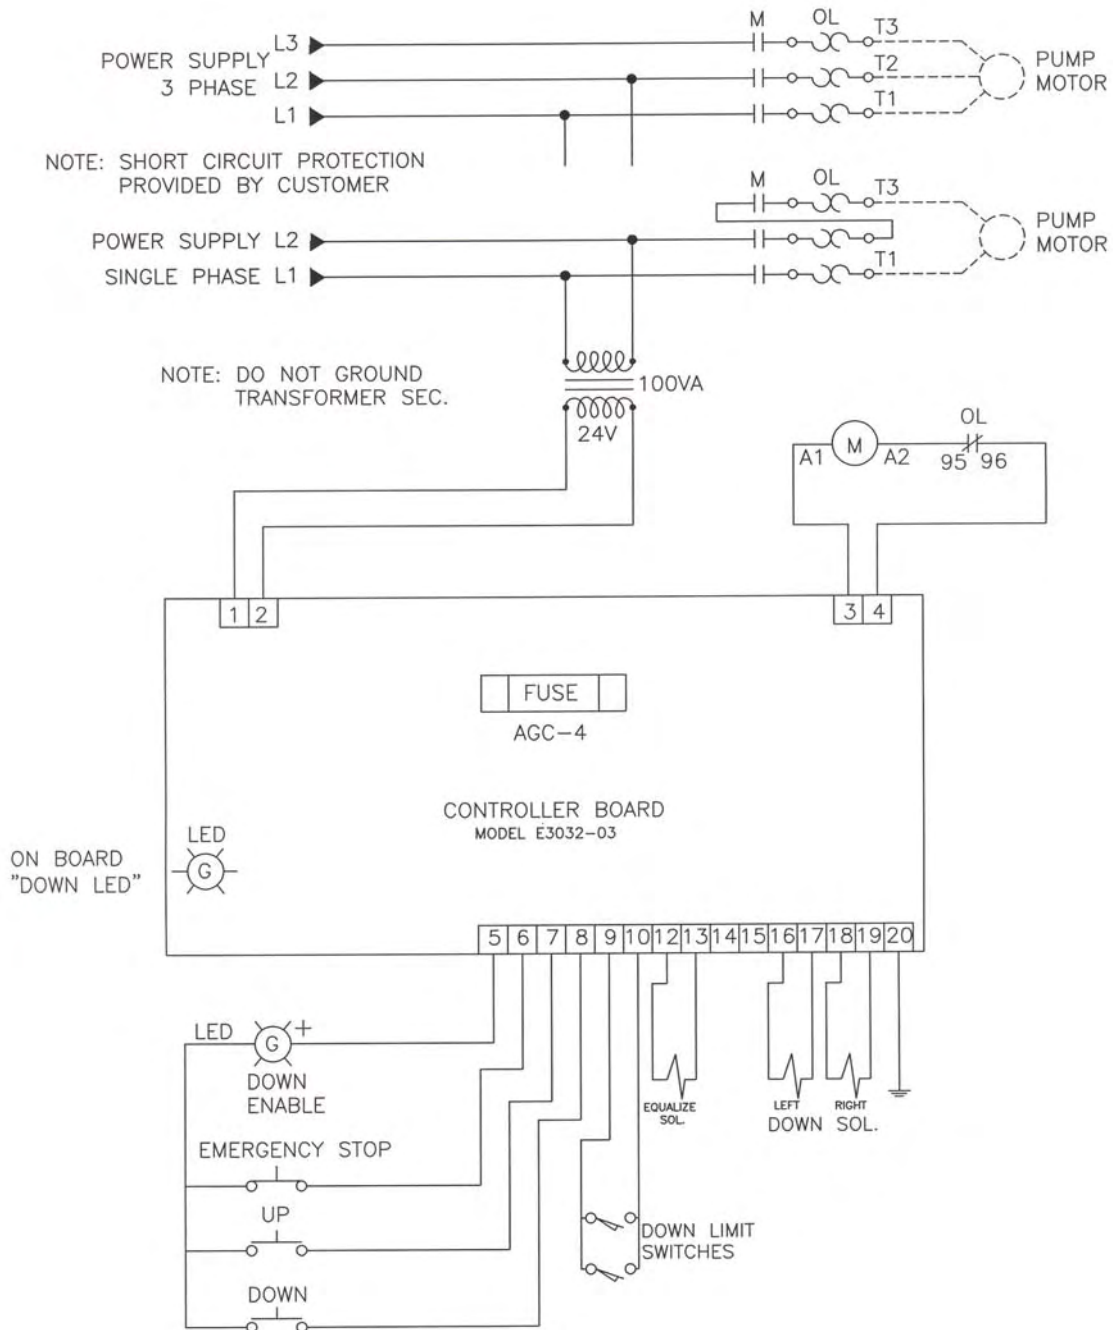

Figure 4 - Electrical Schematic; 220 Volt, 3Ph.
Please refer to Figure 4, the electrical diagram. Note: All electrical connections have been made and customer power supply can be connected using the 12" cable extending from the back of the contactor box.
1. Once the main electrical power supply has been connected, turn the equalization adjustment fully clockwise. The equalization adjustment is located on the powerpack controller board, see Figure 4.